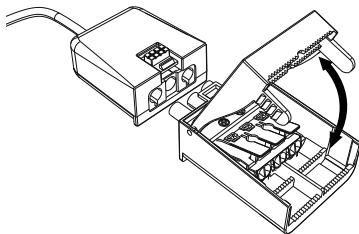

Fig. 2
- Open the terminal cover with the aid of slotted screwdriver (see Fig. 2)